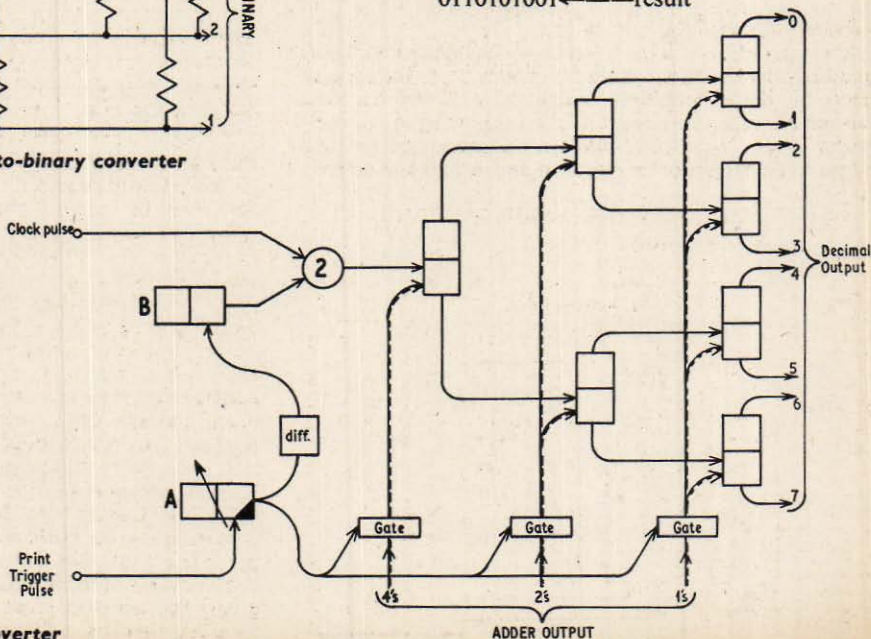

Fig. 2.9. A binary-to-decimal converter
Output converters are rather more complex: these take a binary input and produce a decimal output. One experimental type is given in Fig. 2.9 and the mode of action is thus: the striated wires carry the output signals from the adder and these pass through gates to a series of bistables which are arranged to act as gated amplifiers. The timing unit of the last section of the adding chain produces an output pulse which initiates printing by setting flip-flop (A). This opens the adder output gates and the appropriate bistables are set. As it flops back to its stable state it triggers bistable (B) via a differentiator; this bistable is AND-gated with the main clock pulse line, so clock pulses now enter the decoder proper through the AND and leave at one of the eight outputs. Which output this is depends on which bistables were set and this, of course, is a property of the adder output. The decimal output wires can be made to operate display lights or type out the number, as required.